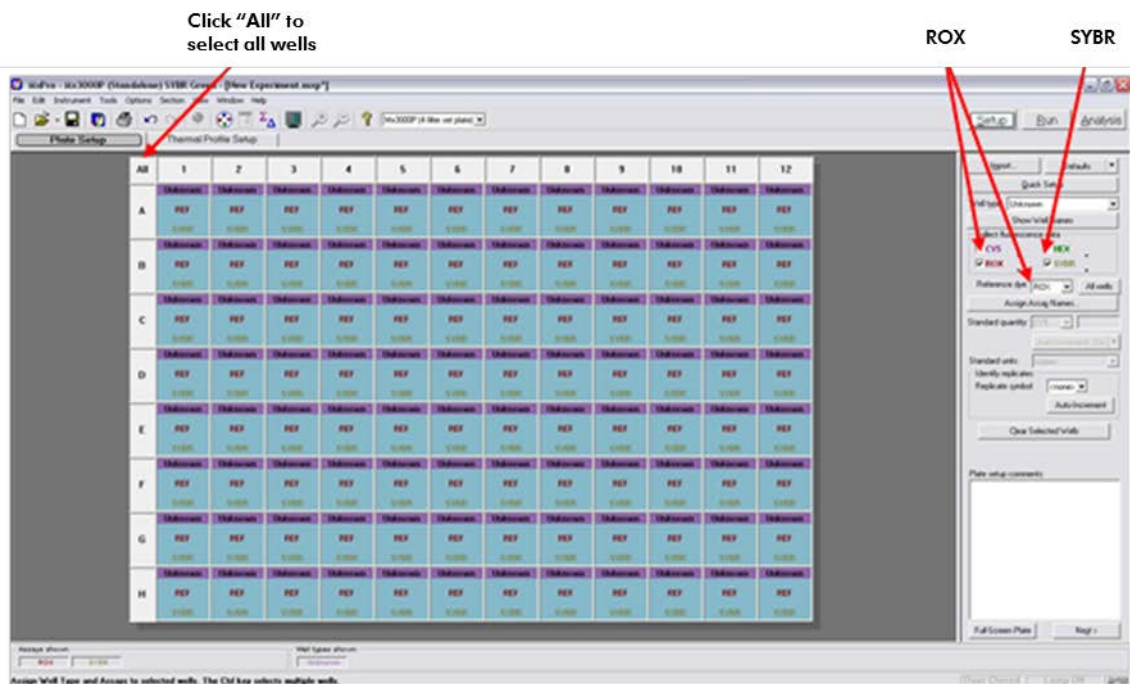

Figure 1. Plate setup.
4. On the “Plate Setup” tab (see Figure 1), click the square button with the word “All” on the top left corner of the diagram of the 96-well plate to select all wells. The selected wells will be highlighted in green.